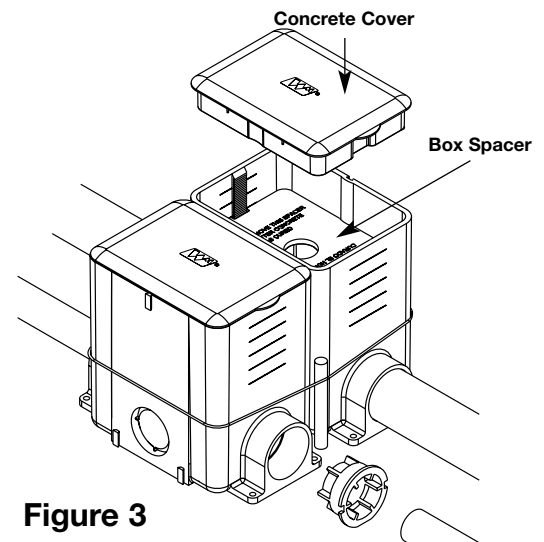

Figure 3
5. Secure the box assembly to prevent floating during concrete pour. For above grade, screw or nail the assembly to the concrete form. For on-grade applications, drive stakes or rebar next to the box and secure with wire. Make sure the stakes are below the 3 1/2" [89mm] min. screed line (see Figure 3).